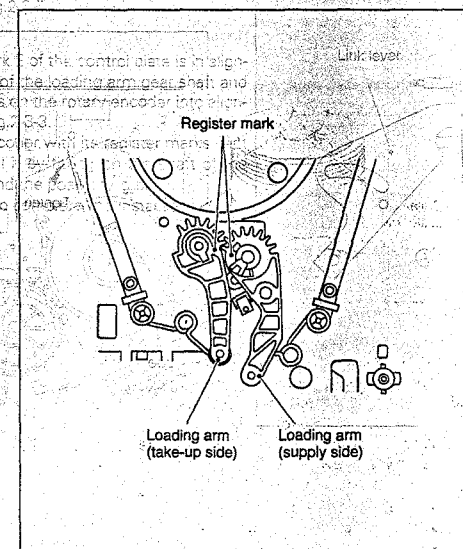

Fig. 2-3-1
(1) Return the pole base assembly to the foremost position in the unloading direction.
(2) Install the loading arm assembly so that the register mark on the gear of the supply side loading arm is in alignment with the one on the take-up side loading arm as indicated in Fig. 2-3-1.